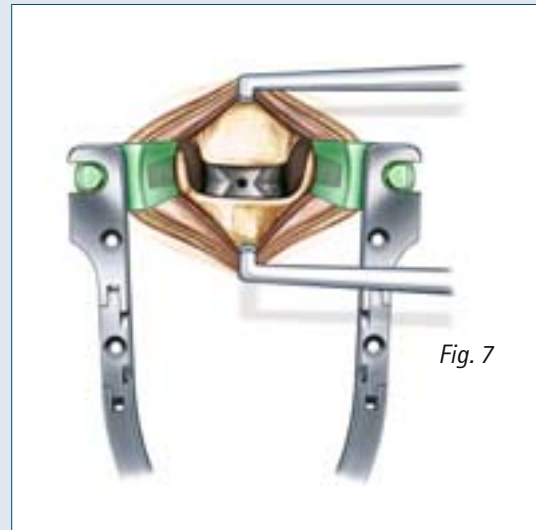

Fig. 7
- The implant should be inserted centrally in AP and with a distance of approximately 1-2 mm to both the anterior and posterior rim (Fig. 7).